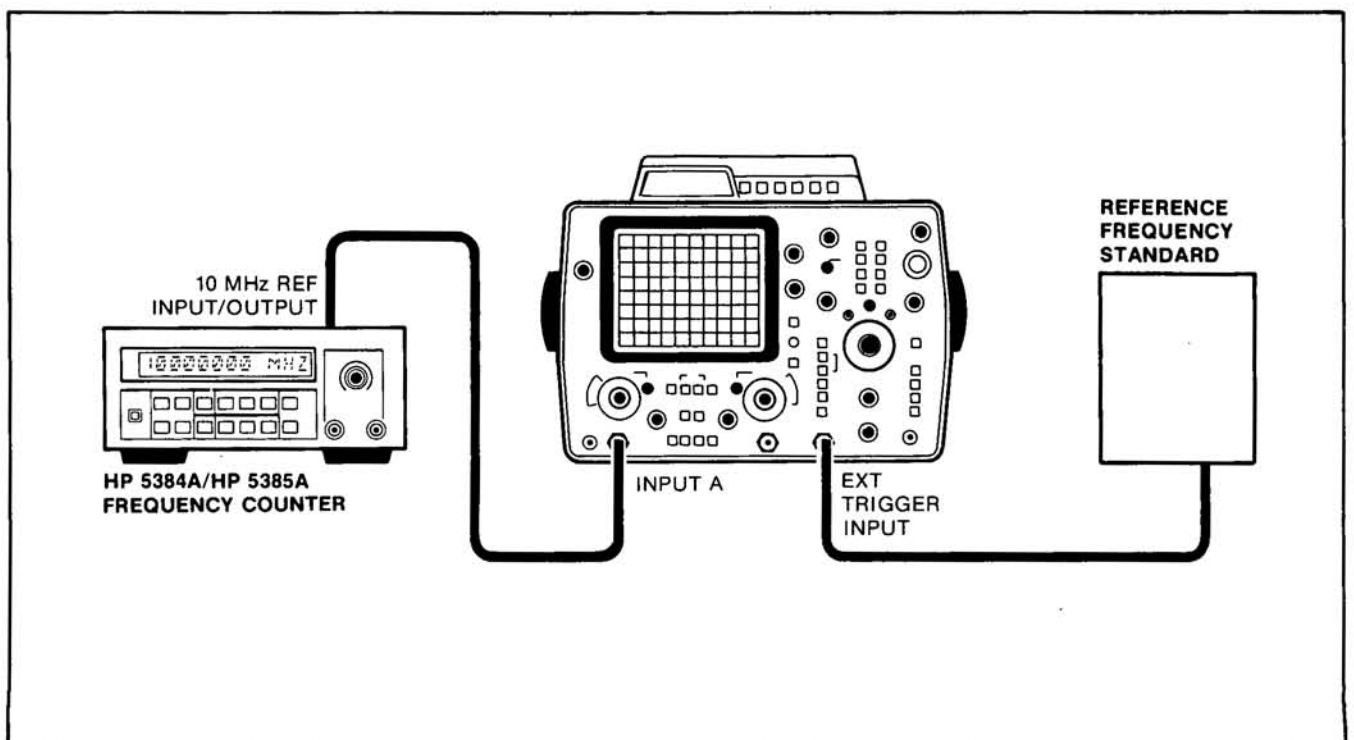

Figure 5-6. Standard, TCXO and Oven Oscillator Test Setup
- a. Connect a house standard (reference frequency) to the EXT TRIGGER input of an HP 1740A Oscilloscope as shown in Figure 5-6. Set the HP 1740A oscilloscope to EXT (trigger).
- b. Connect the HP 5384A/HP 5385A rear panel 10 MHz REFERENCE IN OUT to the channel A input of the HP 1740A oscilloscope as shown in Figure 5-6.
b. Connect a house standard (reference frequency) to Channel A of the HP 5384A/HP 5385A as shown in *Figure 5-6*.
c. Connect a house standard (reference frequency) to the EXT TRIGGER input of an HP 1740A oscilloscope as shown in *Figure 5-6*. Set the 1740A Oscilloscope to External Trigger.
d. Connect the HP 5384A/HP 5385A rear panel 10 MHz REFERENCE IN OUT to the Channel A input of the HP 1740A oscilloscope as shown in *Figure 5-6*.